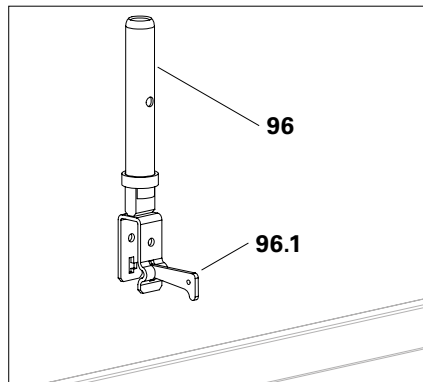

Fig. A11.12c
1. Pull the wedge (**96.1**) out of the clamping part and put the clamping part over the ledger. (Fig. A11.12c)